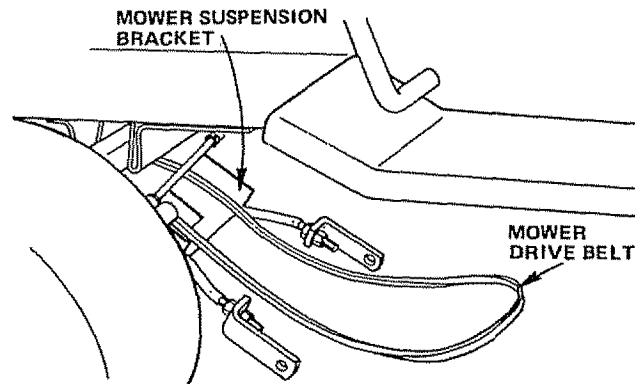

FIGURE 16
3. Pull Mower Drive Belt over Front Mower Suspension Bracket (Fig. 16).